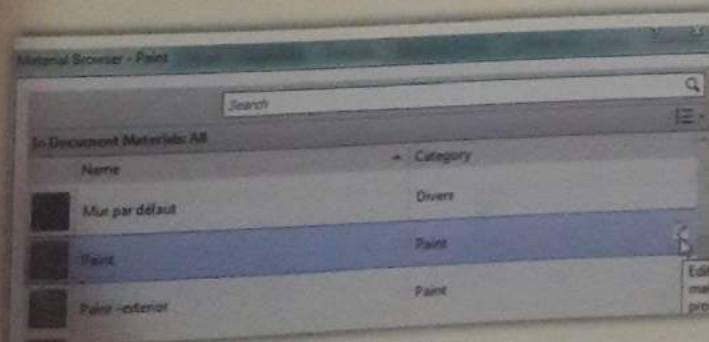

Figure 41: Material browser
10. **Eg:** for finish (1)–select paint as the material. To change the material properties click edit material icon (Figure 41)